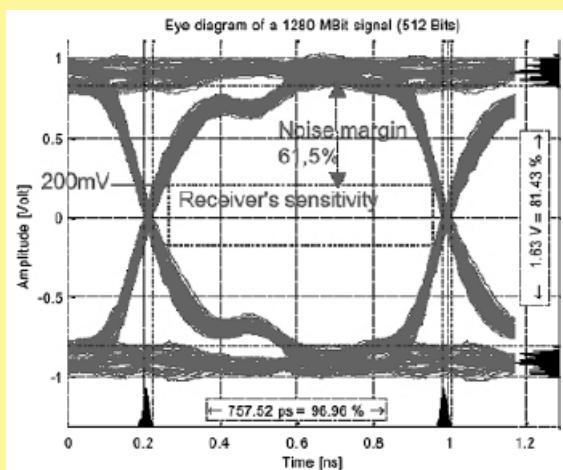

Fig. 1: Eye diagram of a 1280 MBit signal (512 Bits)
**harlink®** allows data transmission up to 2 Gbit/s per pair and is therefore perfectly suited for modern transmission protocols such as Low Voltage Differential Signals (see Fig. 1). The design of the **harlink®** connector allows differential pairs to be placed horizontally (parallel to the pcb), thus reducing the skew at high frequencies and considering high signal integrity.